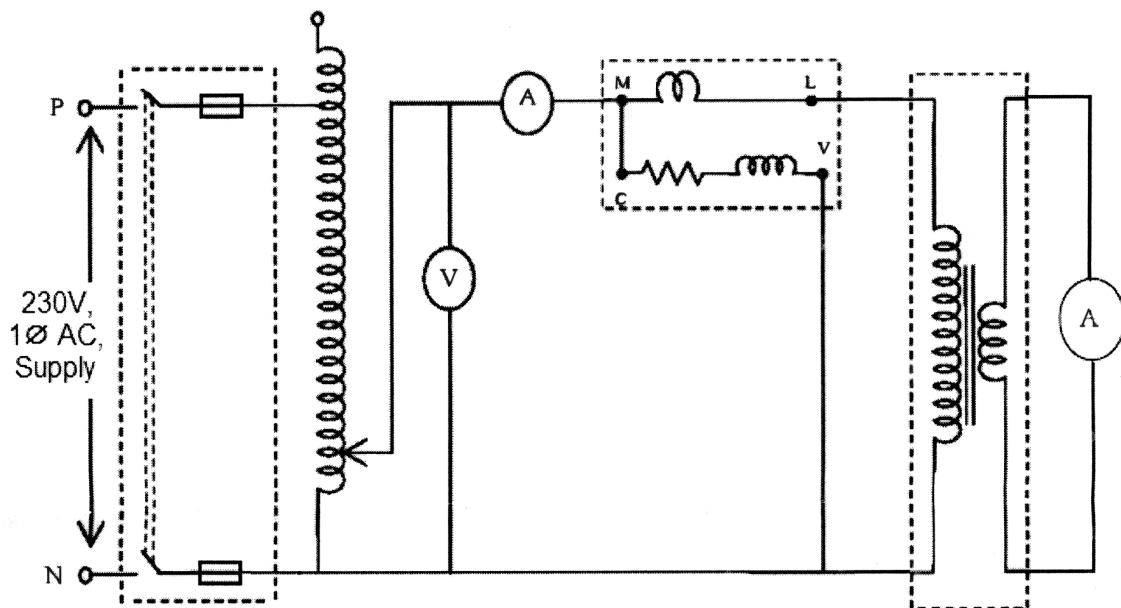

Fig. No. 2
- Identify the circuit diagram given in Figure No.2. Select proper range of all meters if the transformer is having rating of 220 / 110 V, 1 KVA.